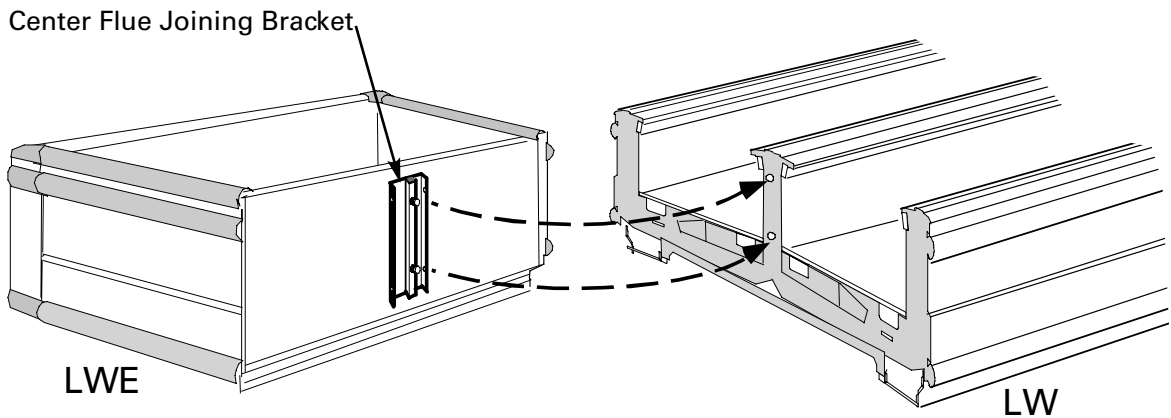

**Figure 5.** Installing Gasket Solid and Glass
**5** Apply **Gaskets – 5 and 6** as shown in Figure 5.